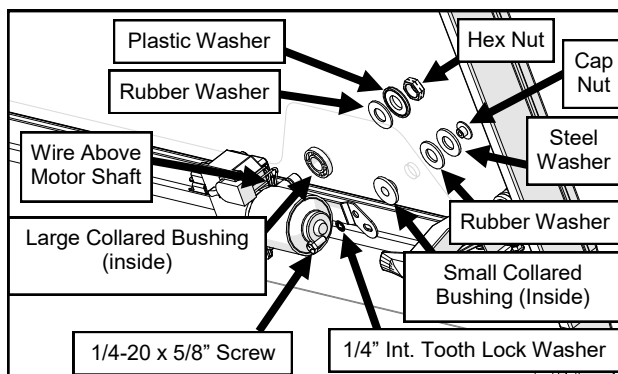

Fig. 12.1 (Windshield Wiper Motor)
- 12.1 Mount the wiper motor to the windshield. See Figure 12.1. Make sure the wires are above the wiper motor shaft to prevent pinching the wires when the windshield is opened and closed, then connect to the wire harness.